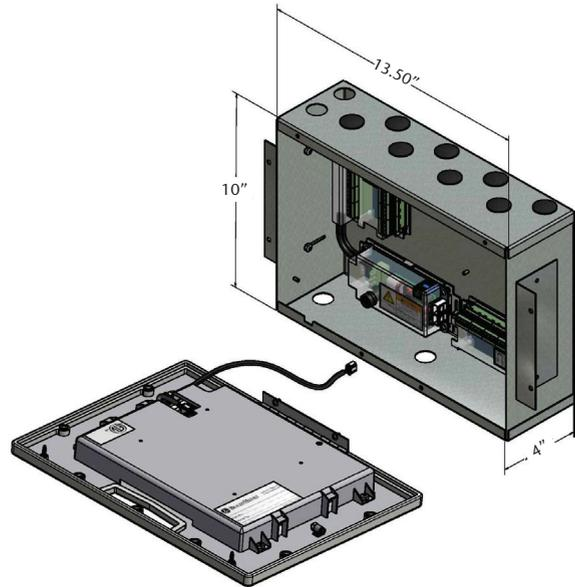

Figure 1: Alarm Panel Rough-In Box Dimensions
2. Remove cardboard dust cover and DISS tube assemblies (if included) insert alarm rough-in box into wall opening. Secure with fasteners suitable for vertical supports (Figure 1 and 2).